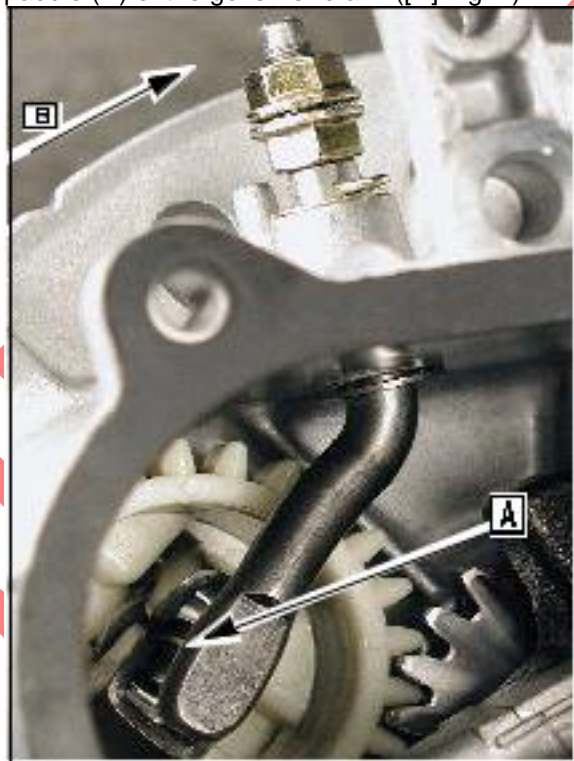

Fig. 2
The end of the cup is in contact with the paddle (A) of the governor crank (B) (Fig. 2).